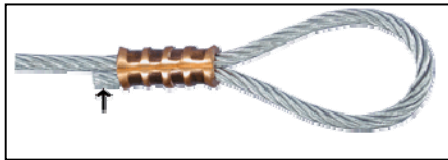

FIGURE 3
- 4) NEXT SWAGE, OR CRIMP, ON ONE END. MOVE OVER AND REPEAT ON OTHER END. ENSURE SLEEVES HAVE BEEN COMPRESSED 3 TIMES FOR TYPE SRK-400 SIZE 1/8" CABLE AND TYPE SRK-800 SIZE 3/16" CABLE. AFTER SWAGING, EXCESS CABLE MAY BE CUT OFF. AT LEAST 3/16" (5 mm) LENGTH OF CABLE SHOULD EXTEND BEYOND LENGTH OF SLEEVE TO ACHIEVE MAXIMUM HOLDING (SEE ARROW IN FIGURE 3). FINISHED SLEEVE IS SHOWN IN FIGURE 3.